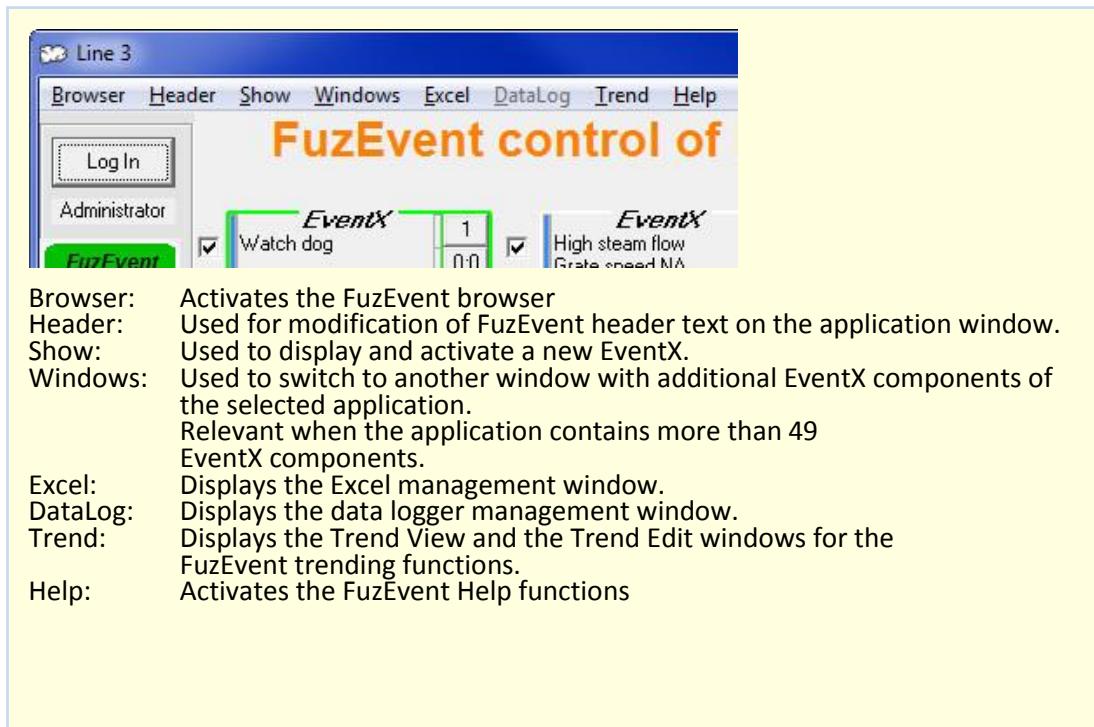

Fig. 8: The application menu items
- The application menu items, Fig. 8